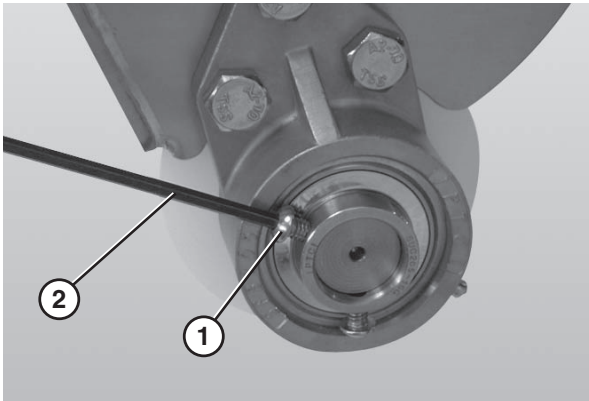

Figure 71
5. Tighten the 3 hole flange with bearing fasteners (**Figure 71, item 1**) using a hex wrench (**Figure 71, item 2**) to 6 N•m (54 in•lbs). Check after 24 hours of conveyor use.